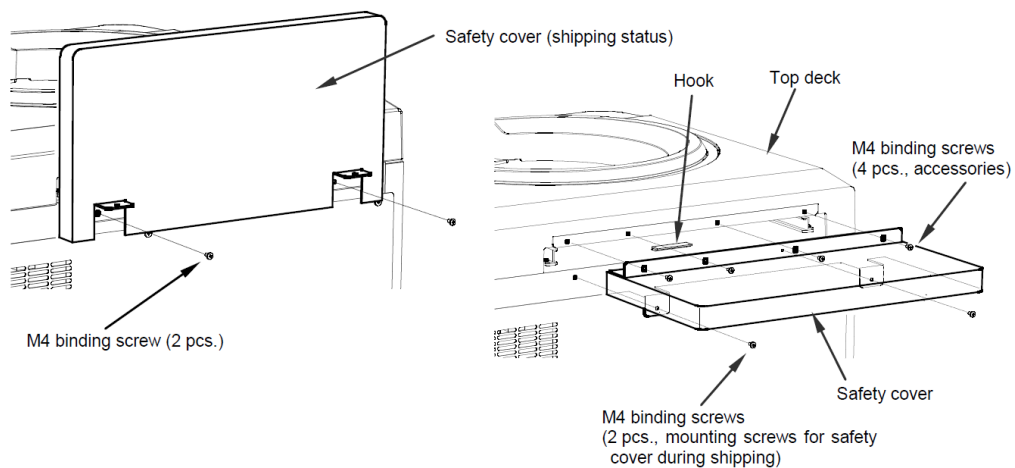

Figure 38: Securing the safety cover
1. Turn the four leveling screws with a wrench to lift the caster about 10 to 20 mm off the floor as shown in Figure 38 Leveling operation.